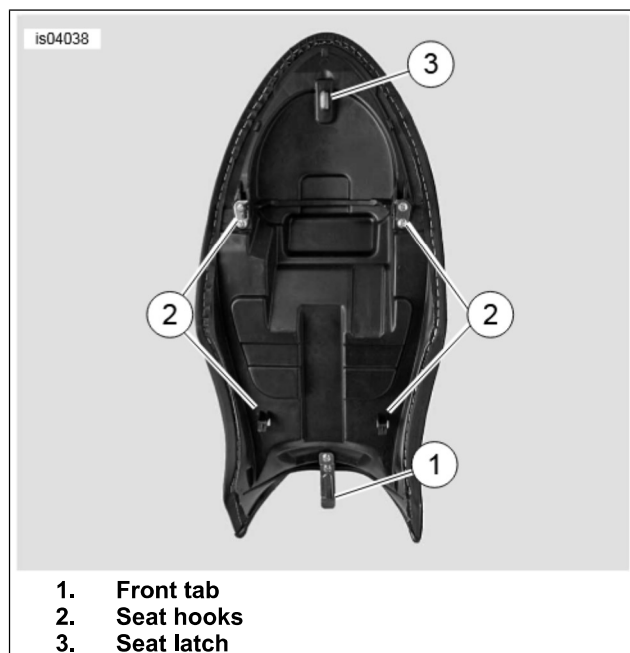
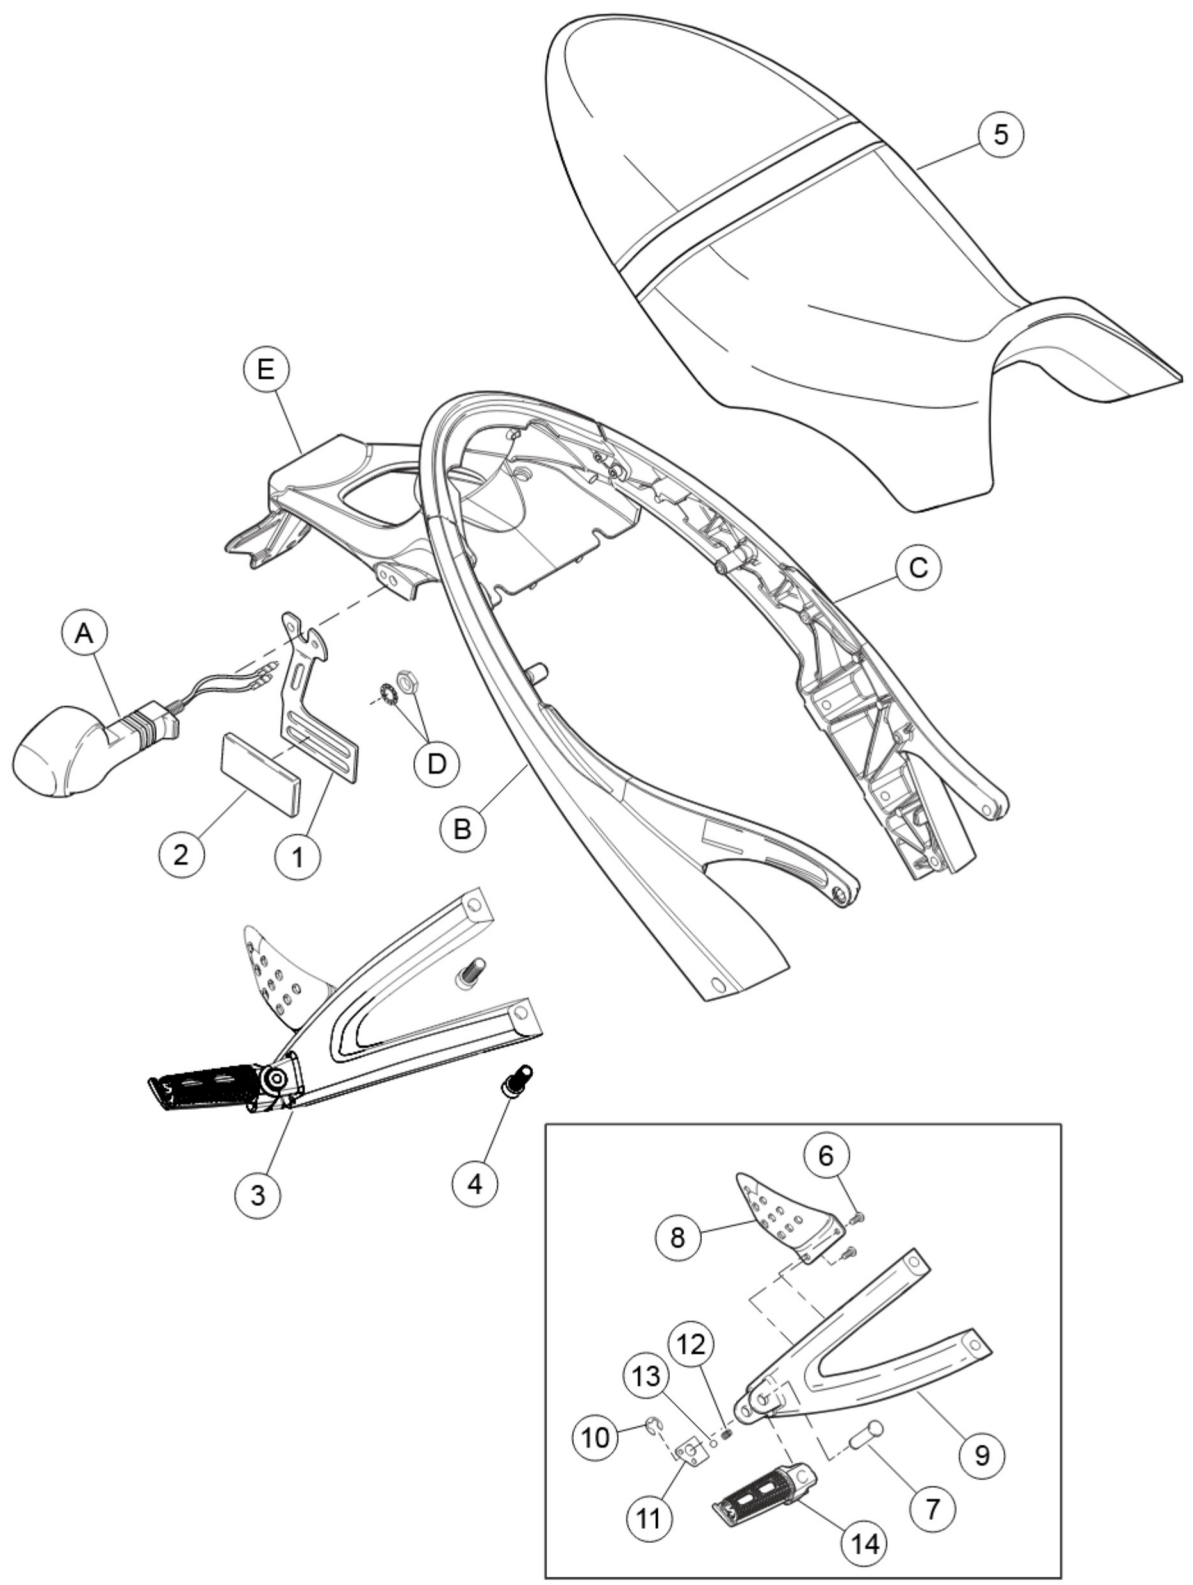

Figure 6. Seat Hooks
Figure 7. Service Parts: Seat and Passenger Footpeg Kit
See Figure 7 and Table 1.
1. See Figure 7. Install turn signal and reflector bracket (1) from kit on turn signal assembly (A) and tail section (B). Tighten nut with washer (D) on inboard side snugly.
2. Peel adhesive strip from back of red reflector (2) and apply to turn signal and reflector bracket.
3. Install passenger footpeg support assembly (preassembled) (3) to underside of tail section (B) with two screws (4).
4. Tighten screws (4) to 25-28 ft-lbs (33.9-38.0 Nm).
6. See Figure 6. Engage the front tab (1) into the slot in the frame.
7. See Figure 7. Position two-person seat (5) on right and left tail sections (B, C).
8. See Figure 6. Check that all seat hooks (2) engage the tail section.